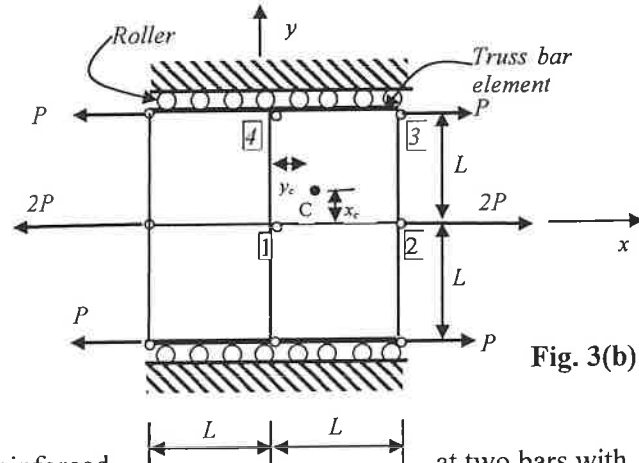

Fig. 3(b)
3.4 Figure 3(b) shows a plate of thickness t reinforced at two bars with constant cross sections A . The plate is modeled using four rectangular elements. Assuming that $Et = \frac{2EA}{L}$.